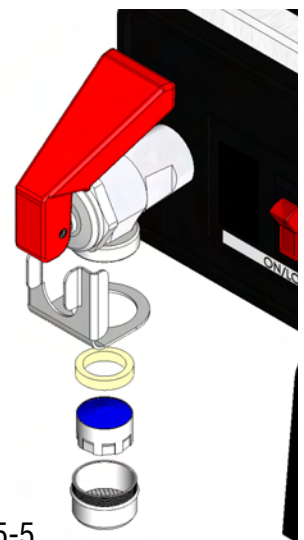

FIG 15-5
4. The faucet aerator may be removed for cleaning. Unscrew aerator assembly (counterclockwise from bottom) FIG 15-5